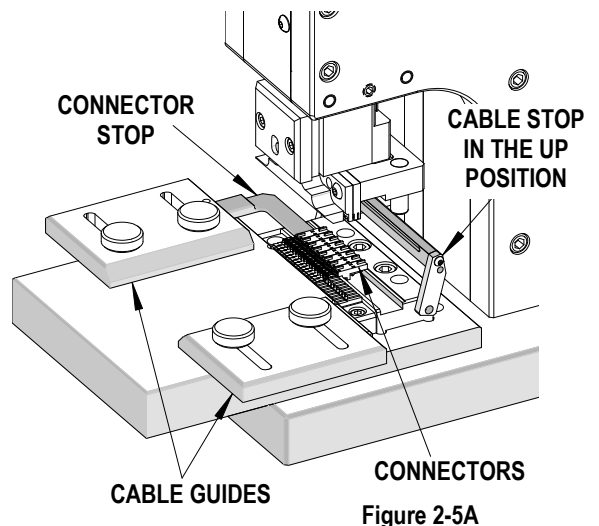

Figure 2-5A
1. Load a connector(s) (70400 or 70475 series) into the nest making sure the terminals are in the terminal guides. See Fig.2-5A and 2-5B.